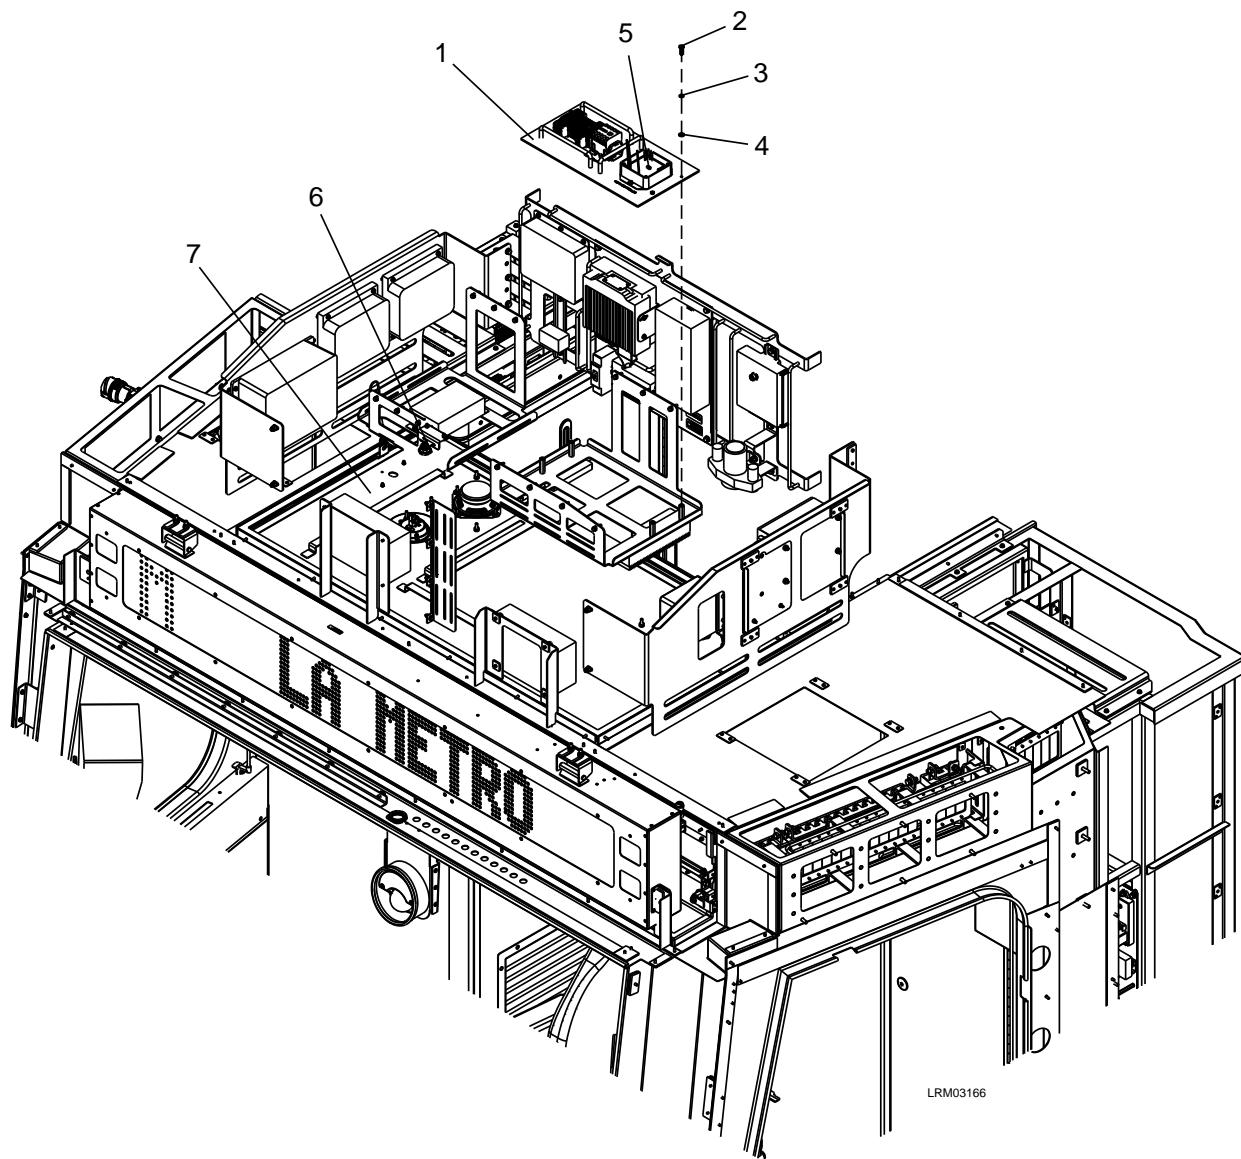

Figure 7-69: Horn Controller Panel
1. Unlock the two locks (6) and lower the cab ceiling panel (7) to access the Horn Controller Panel (1) and disconnect the WAGO terminal electrical connections. See Figure 7-69.
2. Remove the four M4 screws (2), M4 lock washers (3), and M4 plain washers (4) from the Horn Controller Panel (1).
3. Carefully remove the Horn Controller Panel (1).